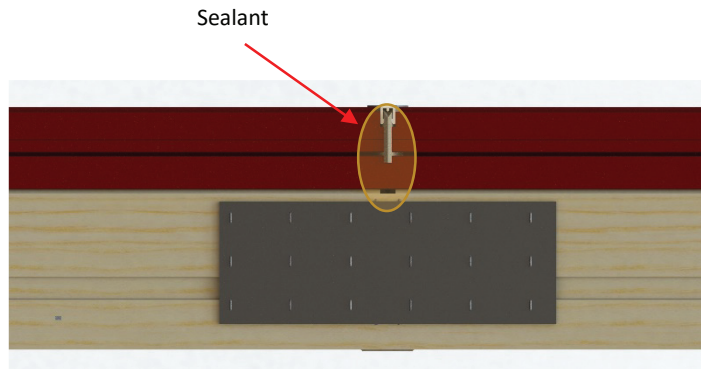

Fig. 7
- Seal both ends of the mull gap with silicone. (Fig. 7)